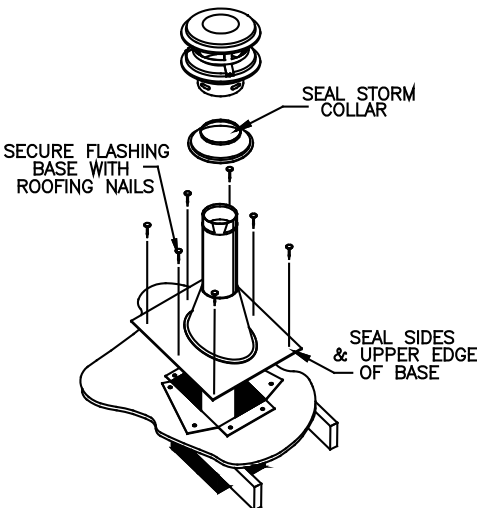

Figure 34
11. Slip Roof Flashing over the supported Pipe Section(s) protruding through the roof. Apply sealant to underside of Roof Flashing along upper edge and sides. Secure the base of Roof Flashing to the roof with roofing nails (*Figure 34*). Ensure that the roofing material overlaps the top edge of the Roof Flashing.